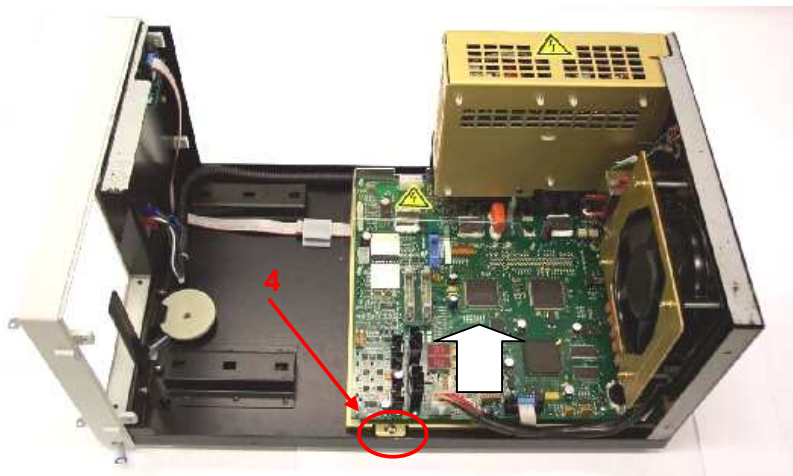

Figure 4: Earth Lug Screw on Main PWB
7. Remove the earth lug screw (4) located on the Processor PWB (Figure 4).